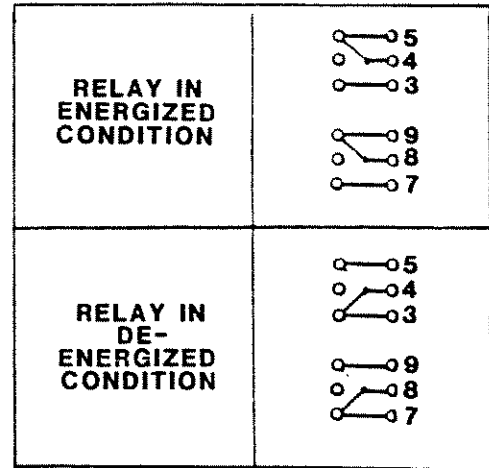

Fig.5-3
2. The LED should be out when relay contacts 3 and 4, and 7 and 8 are closed. See Figure 5-3.